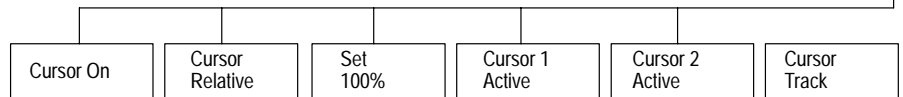

Figure 2-5: Bounce menu tree
**Bounce Menu** Pressing the Menu button when the Bounce measurement is running displays the Bounce menu (Figure 2-5).